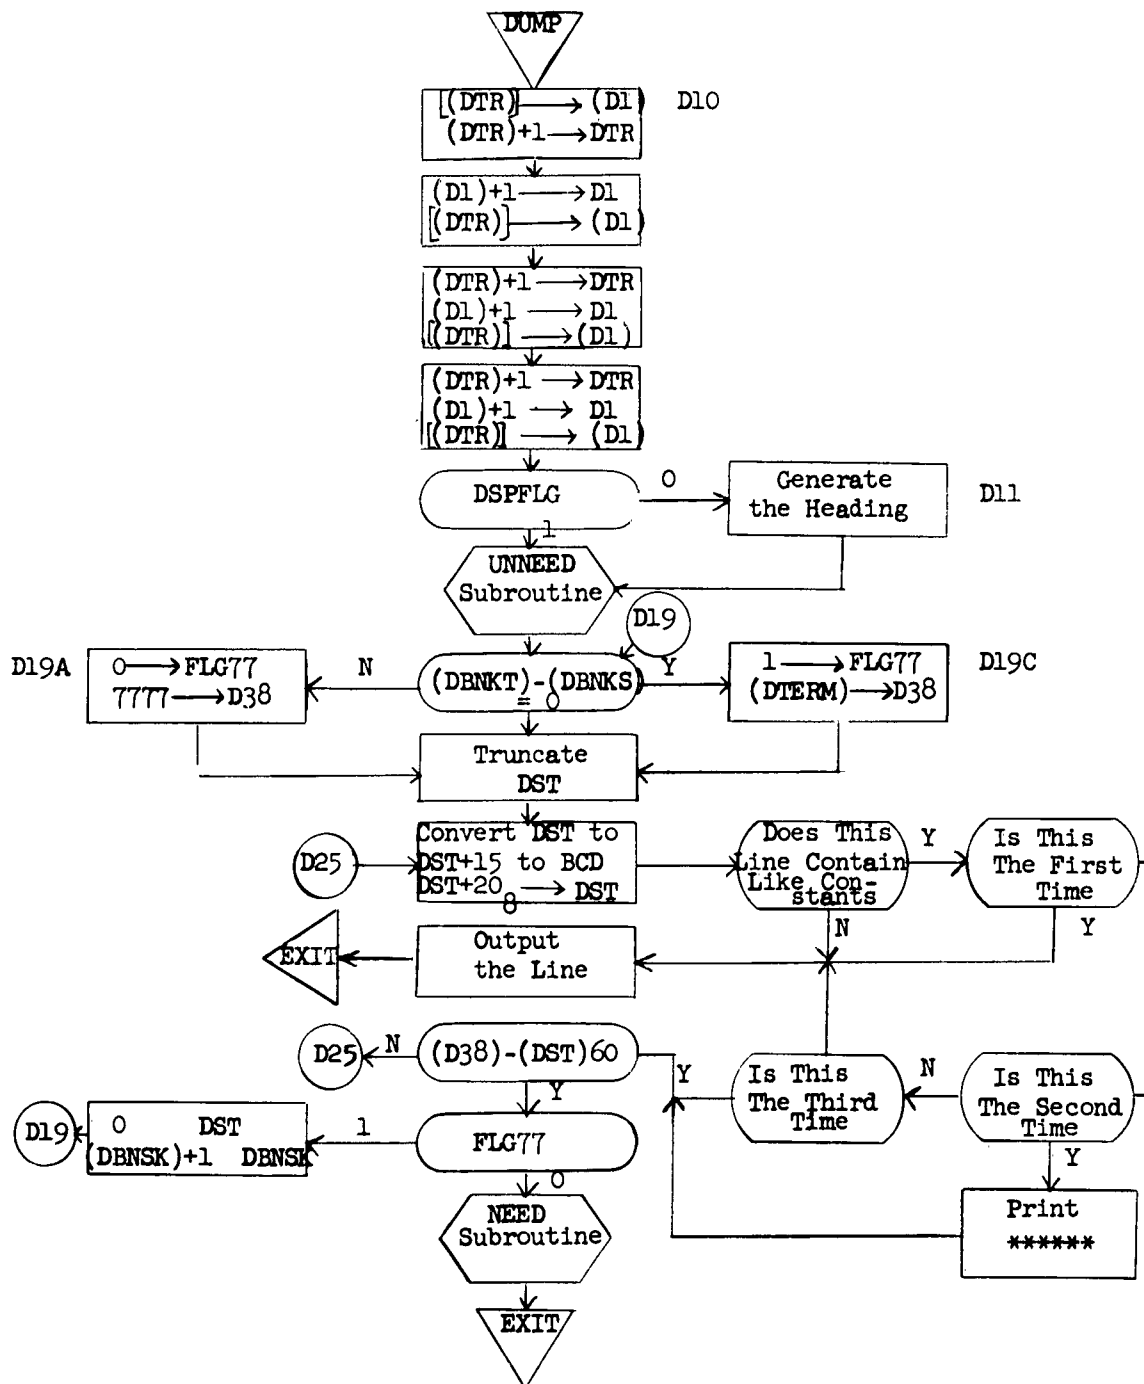

Figure 7.18
7.3.2 DUMP Subroutine (Figure 7.18)